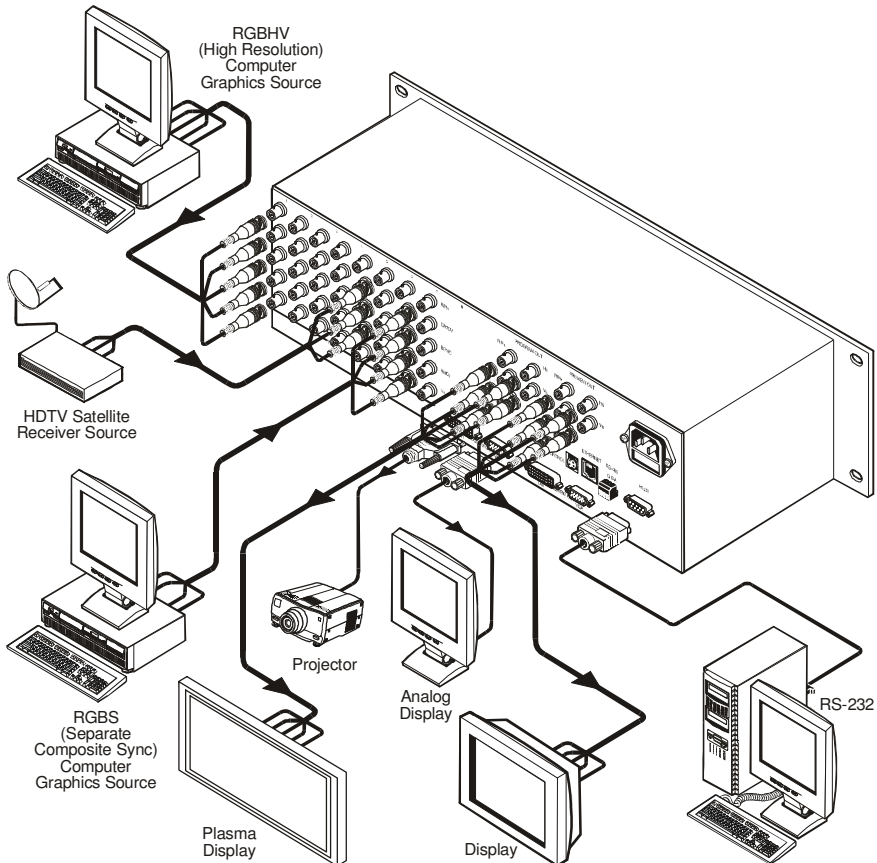
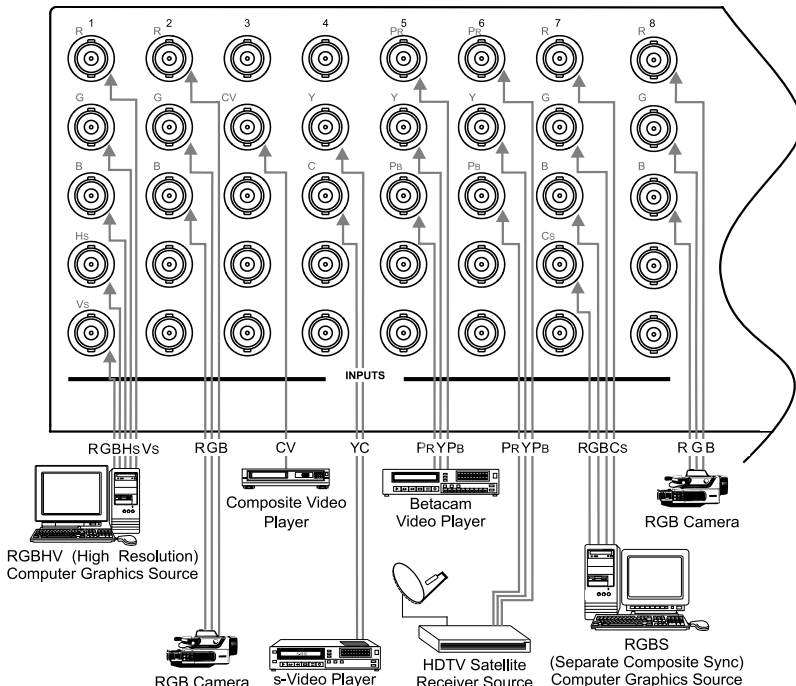
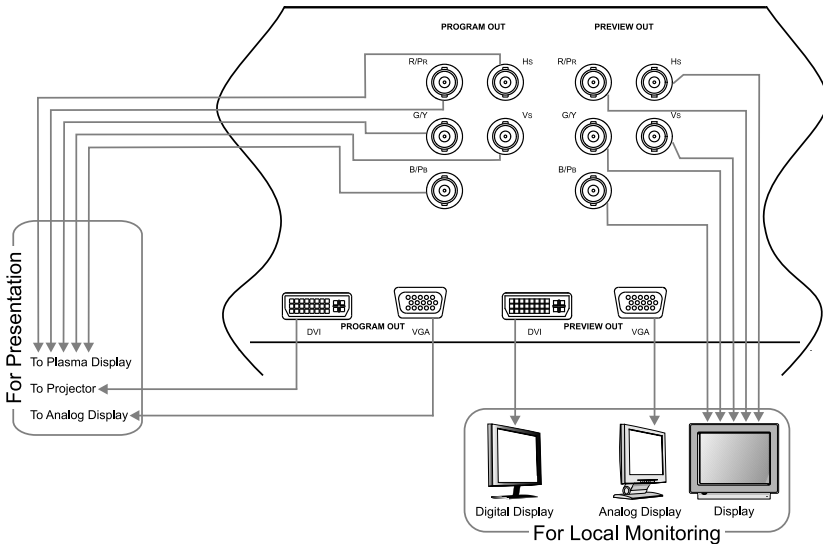

Figure 3: Connecting the VP-727
Figure 4: Connecting the INPUTS (an example)
Figure 5: Connecting the PREVIEW OUT / PROGRAM OUT Connectors
The **VP-727** is a **universal** presentation matrix switcher / scaler, letting you choose what sources to connect to the inputs. For example, you can connect just 3 sources: an RGBHV source, an HDTV source and an RGBS source (as the example in Figure 3 shows), or 8 sources: an RGBHV source, 2 RGB sources, a CV source, a Y/C source, a component video source, an HDTV source, and an RGBCs source (as the example in Figure 4 shows). Figure 3 shows an example of how to connect1 the rear panel of the **VP-727**:
1 Figure 4 and Figure 5 show how to connect several sources, and the PREVIEW/PROGRAM OUT connectors, respectively
1. Connect the following video sources1 (see Figure 4):
2. Connect the PROGRAM OUT (see Figure 5):
3. Connect the PREVIEW OUT (see Figure 5):
The **VP-727** is a **universal** presentation matrix switcher / scaler: you choose what type of source to connect to each input. You can connect different video types or the same or similar video types. See the examples in Figure 3 and Figure 4 in section 6.